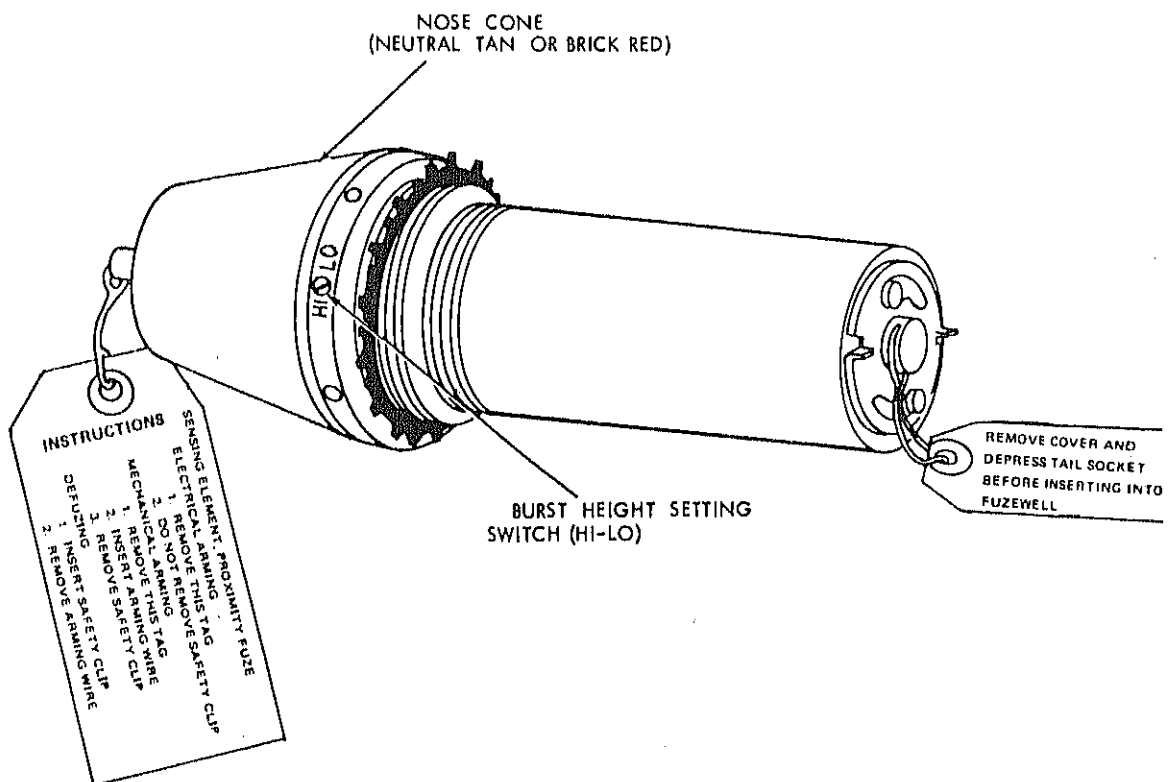

Figure 4.--M20/M20A1 proximity sensing element (external view).
<p>Control switch settings.</p>	<p>20. So far in this program, we have learned (a) the names of the electric tail fuzes presently being used with the Mk 80 series LDGP bombs; (b) the two primary advantages of electric tail fuzes when compared with mechanical fuzes; (c) the two reasons why the Mk 344 and Mk 376 fuzes are preferred; (d) which electric tail fuzes are restricted to the unretarded delivery; (e) which electric tail fuze is used for the retarded delivery and also for the unretarded delivery; (f) the arming delay time(s) and the delivery mode(s) of the Mk 344 and the Mk 376 fuze; (g) the four in-flight selectable functioning modes of the Mk 344 and Mk 376 fuzes; and (h) what is used by the pilot for the purpose of making a selection of any functioning mode. Now, let us discuss some of the characteristics of the VT (proximity) nose elements.</p> <p>Two VT (proximity) nose elements are available for use in conjunction with Mk 344 and Mk 376 electric tail fuzes, in the electric-fuzed Mk 80 series bombs, in order to obtain an airburst capability. They are (a) the M20 or M20A1 proximity sensing element (PSE) and (b) the Mk 43 Mod 0 target detecting device (TDD). (See figures 4 and 5.)</p> <p>(Continued on the next page.)</p>
23. The M20 or M20A1 PSE has a fore-and-aft (forward-looking) lobe pattern. Each utilizes a HI-LO switch that is not found on the Mk 43 Mod 0 TDD. (Look again at figure 4.) This switch provides an option of two burst heights, which must be preflight selected: (a) a burst-height range of 100 to 160 feet for the high range, and (b) 20 to 60 feet for the low range.